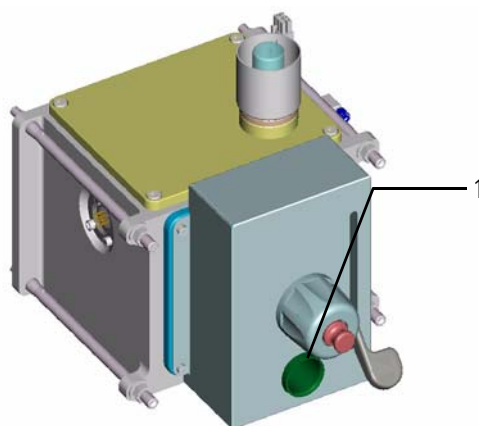

Figure 6-28. Valve shield (1) covering the vacuum manifold probe plate
- c. Remove the valve shield from the vacuum manifold probe plate (Figure 6-28) by loosening the four screws at the corners of the shield.